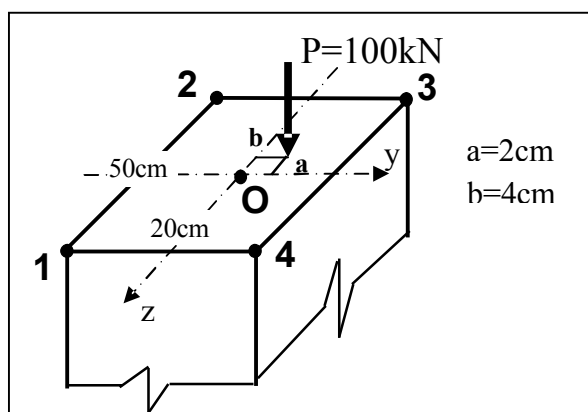

Fig. 6
07) The magnitude of the normal stress at point “O” of the cross section represented in Fig. 6 is: